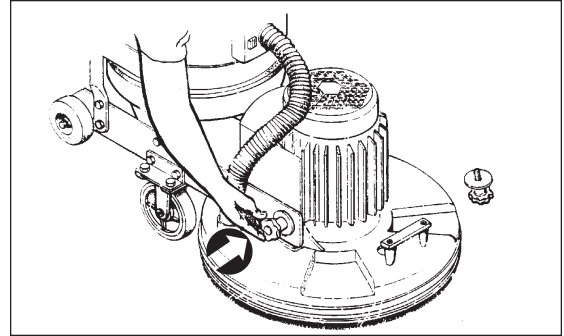

Figure 2
4. Remove both hand knobs from the sanding unit and separate sanding unit from truck frame. (see Figure 2)